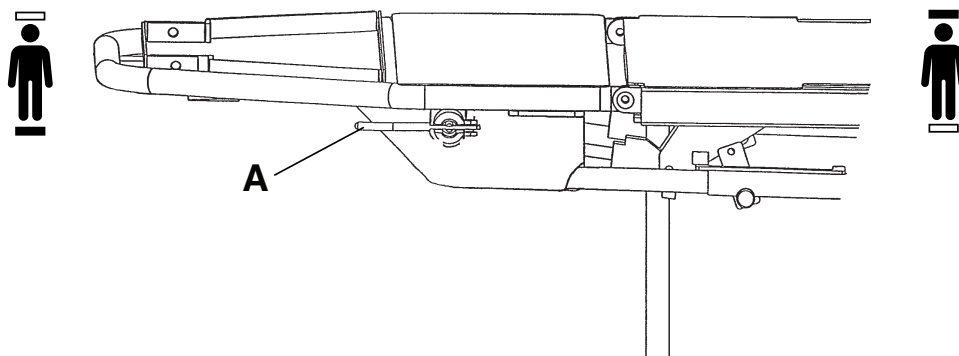

Figure 6 – Position of red handle in dependent (chair) mode
To put the foot section in dependent (chair) mode, rotate the red handle (A), located on both sides of the foot section, toward the head end of the product (Figure 6).
To put the foot section in independent mode, rotate the red handle (A), located on both sides of the foot section, toward the foot end of the product (Figure 6).